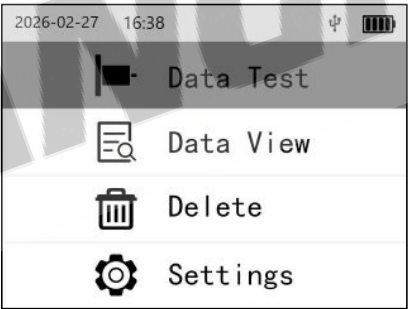

Figure 3.1
The instrument primarily functions to perform tasks such as data test, data view, delete, settings, and related operations. The system main interface face, as shown in Figure 3.1. Press (▲) and (▼) to select options, then press (OK) to enter the selection interface.